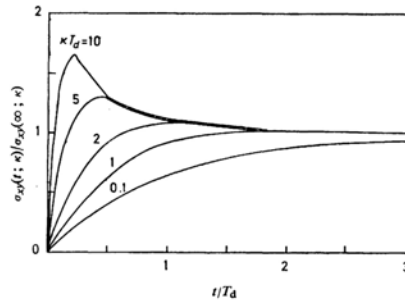

FIG. 6.—Shear stress when a shear flow is started at $t = 0$ with shear rate κ .
FIG. 6.—Strain dependent part of the stress relaxation function for simple shear [eqn (6.7)]. Circles, observed values [after ref. (11)]; sample, polystyrene solution in diethyl phthalate; molecular weight, 3×10^6 ; concentration, \square 0.166 g cm⁻³, \circ 0.221 g cm⁻³, \triangle 0.275 g cm⁻³. Solid curve, eqn (6.8). Broken curve, eqn (7.4). In the ideal gaussian rubber f_{sh}/A is constant.